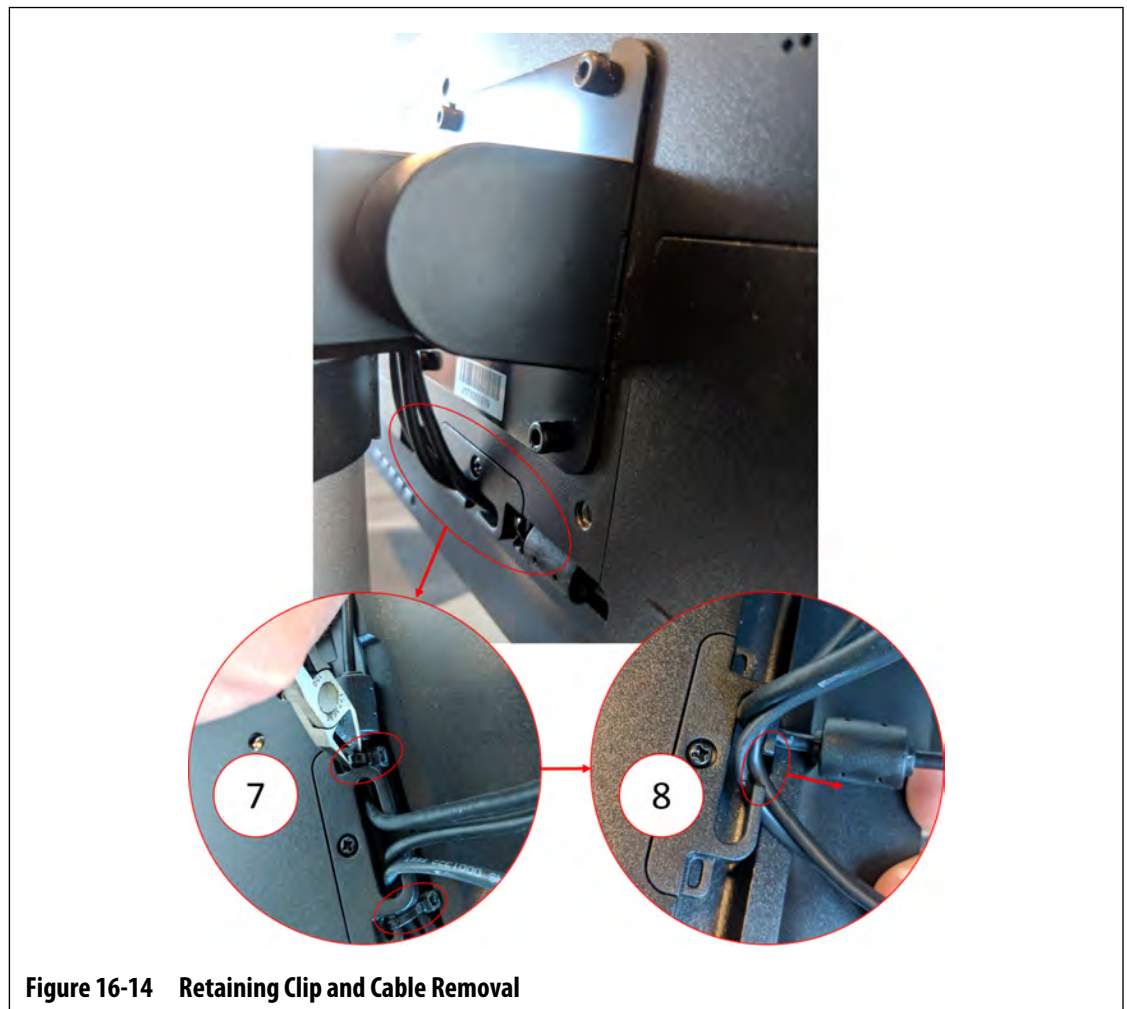

Figure 16-14 Retaining Clip and Cable Removal
9. On the back of the touch monitor, towards the lower center area, find the “C” shaped cable retaining clip and cut the cable ties to either side of it. Refer to callout 7 in Figure 16-14.
10. Remove the cables from the retaining clip. Refer to callout 8 in Figure 16-14.